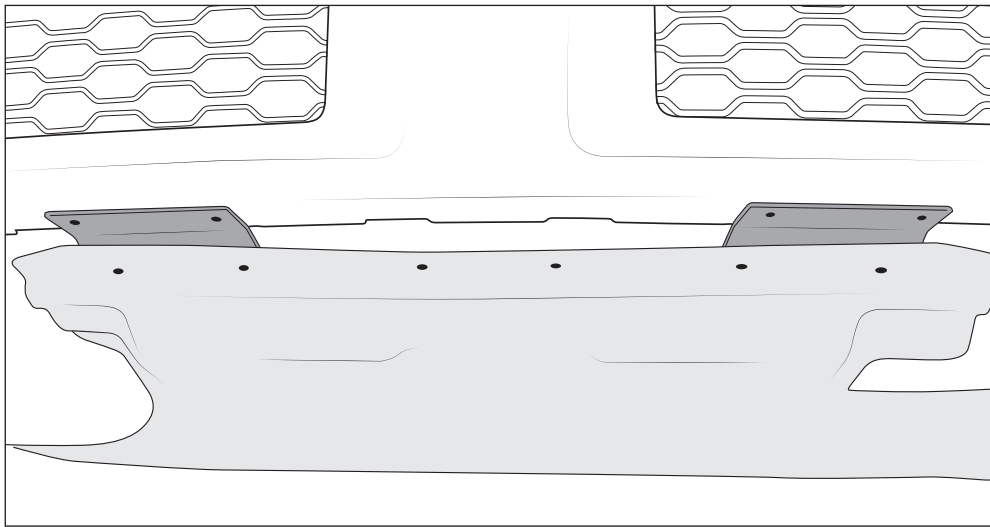

Figure 10
1. Using existing outer holes in lower radiator shroud, place lower air diverter-to-grill brackets into shroud as shown (fig.10). The bends in the brackets should angle downward from the grill toward the shroud. Align brackets so they're square to shroud/grill and drill second set of holes in shroud to match the holes in brackets. Use push fasteners to hold brackets loosely in place. Only install push fasteners loosely for now, they will need to be removed before bumper install.